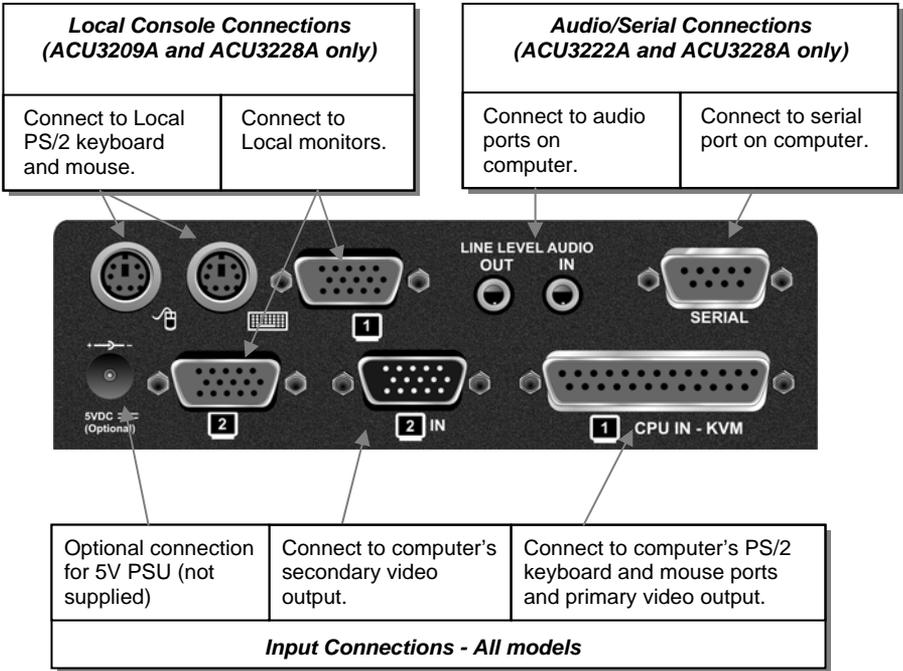

Figure 4 Local Unit - rear view
2. Using the supplied CPU KVM cable(s), connect the keyboard, monitor(s) and mouse connectors on the computer (or KVM switch) to the corresponding connectors on the Local unit as shown in Figure 4.